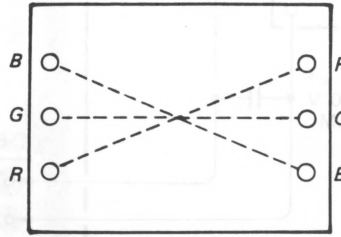

Fig. 10
3. Adjust with the deflection yoke H. CV correction coil when there is X crosstalk. (Fig. 10)